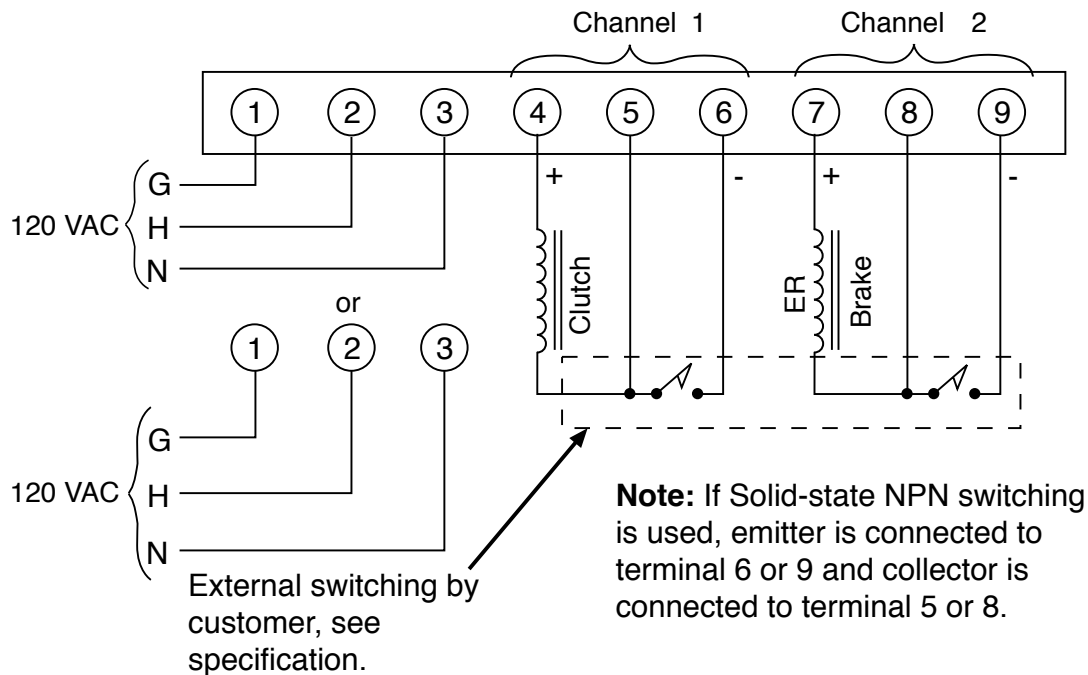

Figure 5
1. Connect the Brake to Terminals 4 and 5. Observe the polarity when making connections. Tighten Terminal 4 securely (See Figure 5).